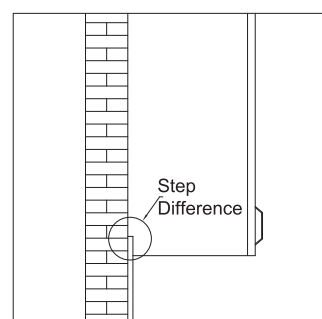
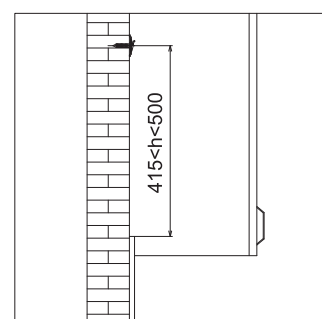
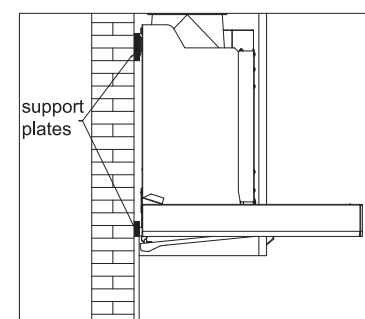

Fig.1
Fig.2
Fig.3
- Where there is a step difference on the installation wall of the range hood as shown in Fig.1, if there is a situation as shown in Fig.2, the operation shall be carried out as shown in Fig.3, i.e., the support plates shall be added on the back of the hook and the foot-pad of the range hood. The thickness of the support plates shall be consistent with the height of the steps.